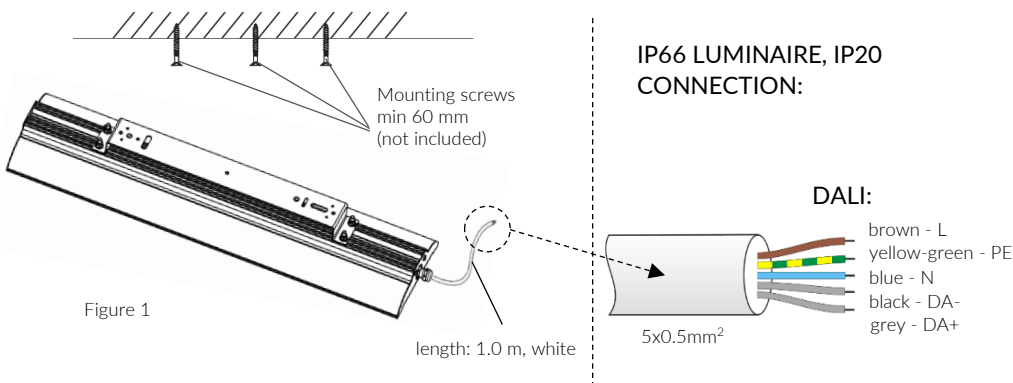

Figure 1
2. Surface-mounting: unscrew the element with mounting holes from the luminaire and fix it using at least two $\varnothing 8$ mm raw/plugs or screws at least 60 mm long (not included), depending on the type of the surface, (Fig. 1).